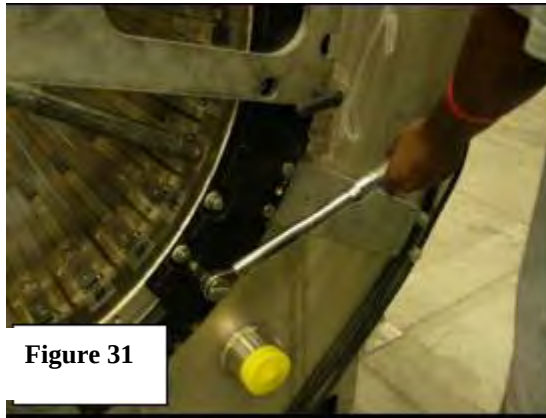

Figure 31
M. Once seated, tighten each of the mounting screws (8 front, 6 rear). (FIG 31)